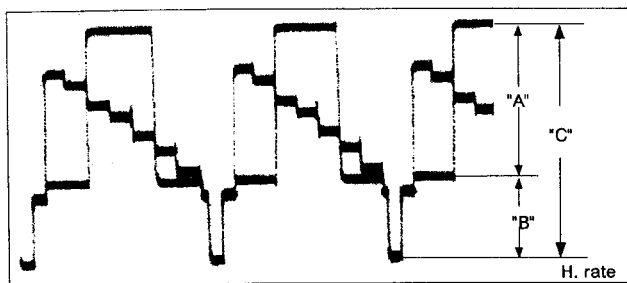

Fig. 3-1-14 N PB Y level
- 3) Adjust R37 so that the video level "A" ≤ 0.71 Vp-p, as in Fig. 3-1-14.
- 4) Adjust R247 so that the sync level "B" ≤ 0.29 Vp-p, as in Fig. 3-1-14.
- 5) Confirm that the Y level "C" is 1.00 ± 0.03 Vp-p, as in Fig. 3-1-14.